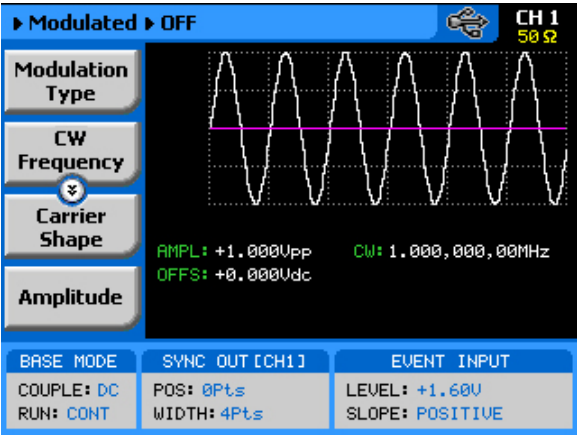

Figure 3-32, The Modulation Function Main Screen
The modulation function is turned on immediately after you press the Modulation button in the Functions group on the right side of the generator. By default, modulation is turned off and therefore, the output generates carrier wave (CW). The first modulation screen is shown in Figure 3-32. The modulation functions and their parameters are described as follows: